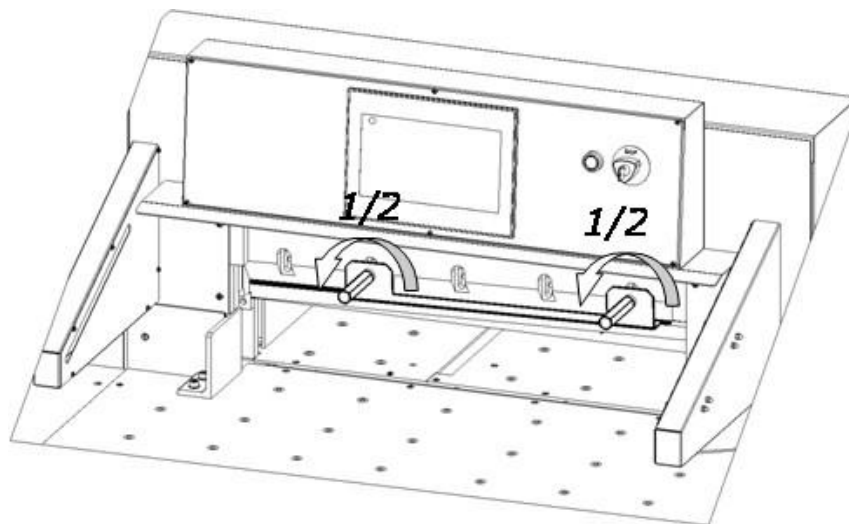
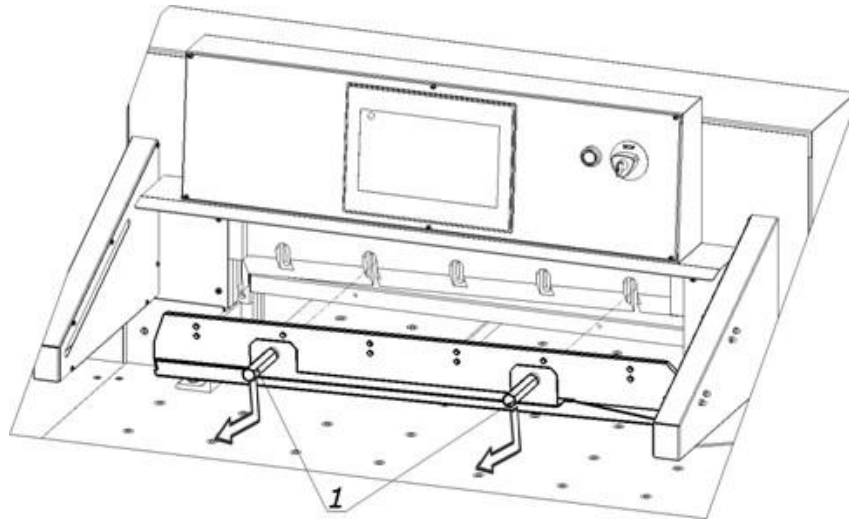
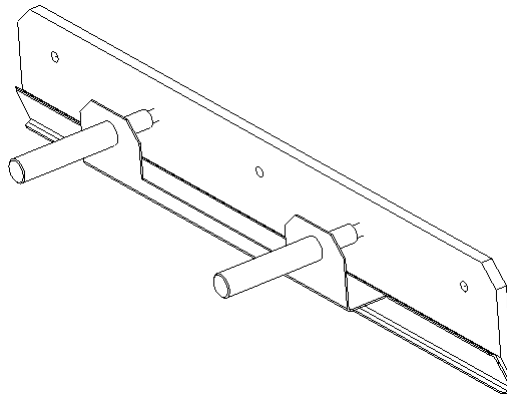

Figure 26.
Figure 27.
Figure. 28a. Knife in the transport handle
13. Holding the transport handles release the clamp by turning them 1/2 turn at a time to the left (fig 26) and carefully pull the knife down (fig 27). Place the removed knife into the special protective packaging (Fig. 28a - 28d.) With the blade inwards and fasten it with two screws. To unscrew the bolts fixing the blade knife, use the RWTg 8 wrench provided on the cutter.
2. Remove the knife from the packaging (Fig.28a - 28d)